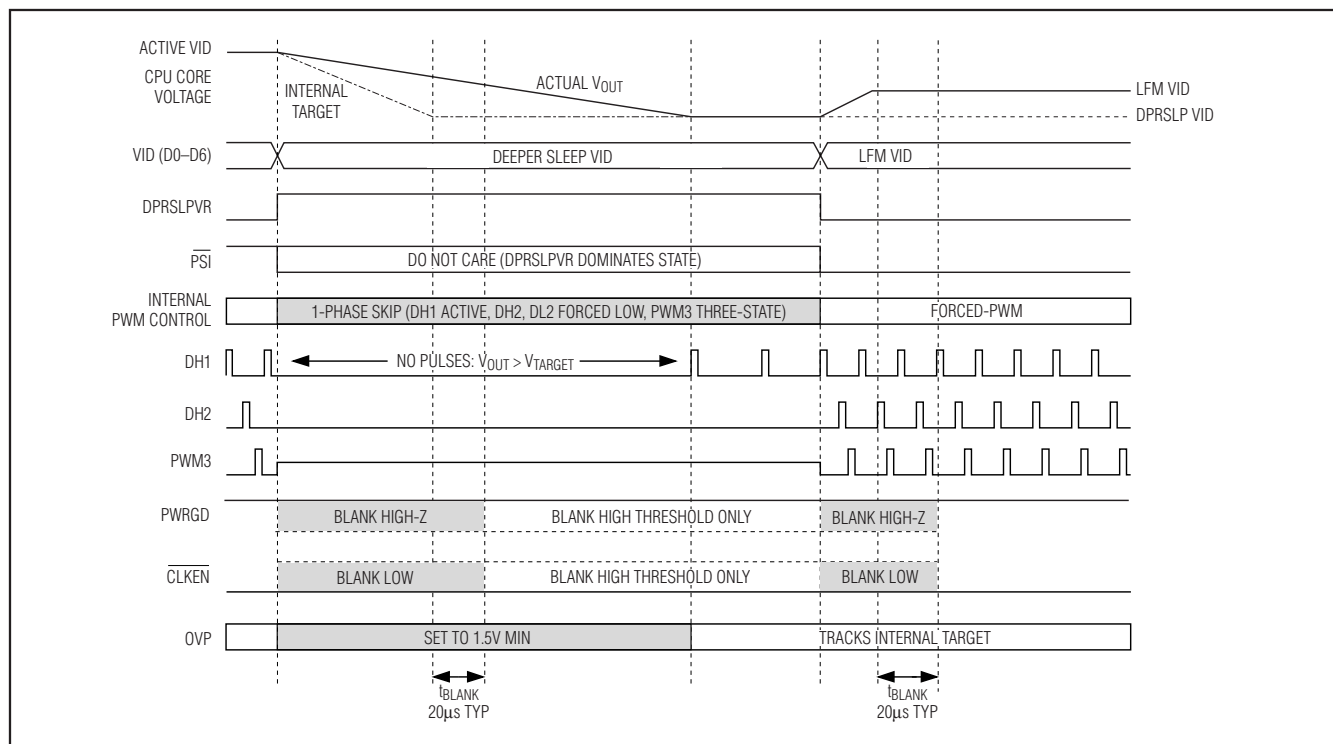

Figure 6. Standard C4 Transition
- **Standard C4 Deeper Sleep Exit:** When exiting deeper sleep (DPRSLPVR pulled low) while the output voltage is regulating to the deeper sleep voltage, the MAX17030/MAX17036 immediately activate all enabled phases and ramp the output voltage to the LFM DAC code provided by the processor at the slew rate set by  $R_{\text{TIME}}$ . The controller blanks PWRGD and  $\overline{\text{CLKEN}}$  (forced high impedance) until 20 $\mu$ s after the transition is completed. See Figure 6.